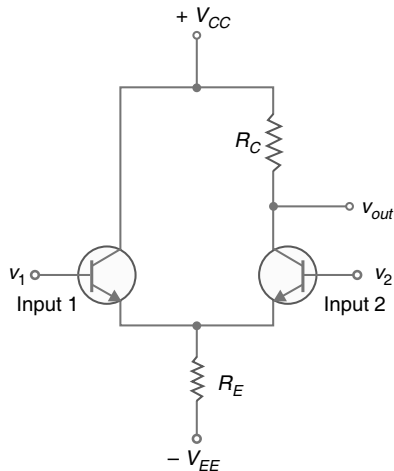

Fig. 23.20
Fig. 23.20 shows double-ended input and single-ended output differential amplifier (DA). In other words, there are two input signals and one output signal. A DA is *\*normally operated in this fashion*. When input signal  $v_1$  (input 1) is applied, the output signal is in phase with the input signal *i.e.*, there is no phase shift in the output signal. For this reason, input signal  $v_1$  is called *non-inverting input*. When input signal  $v_2$  (input 2) is applied, the output signal is  $180^\circ$  out of phase with the input signal. For this reason, input signal  $v_2$  is called *inverting input*.